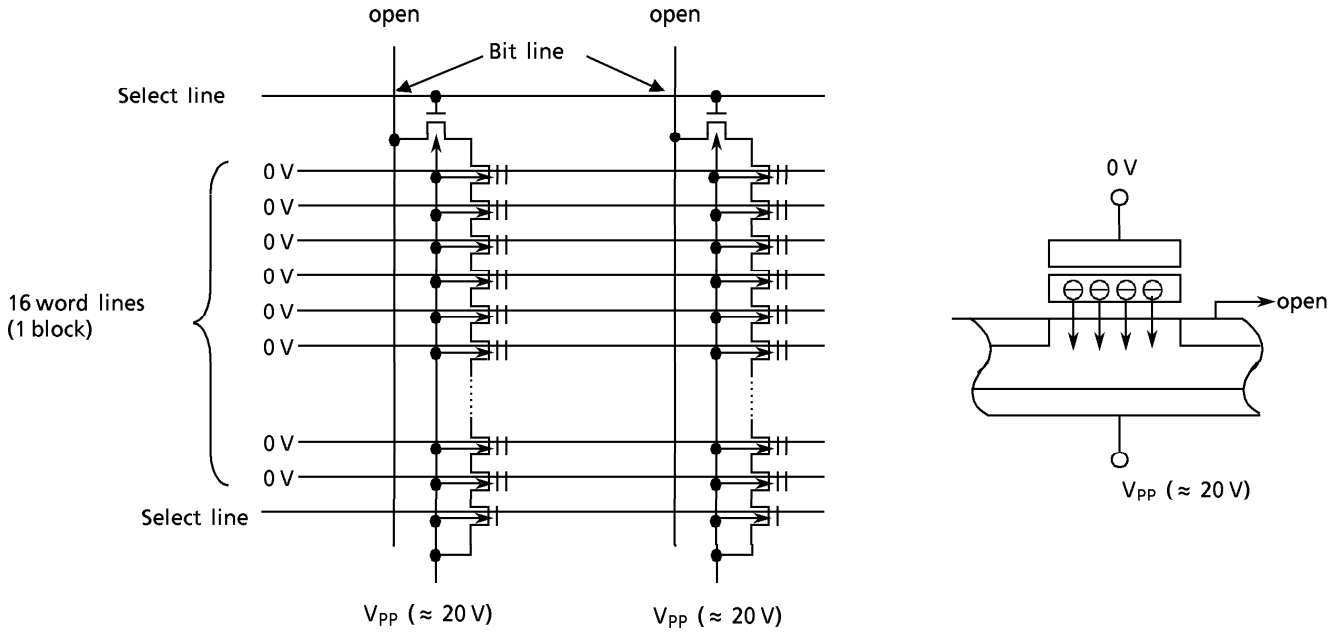

Figure 18. TC5816 Erase Device Physics
- (1) A high level is applied to Select line 1 and a low level is applied to Select line 2 so that the device is connected to the Bit line and disconnected from the ground line.
- (2)  $V_{pp}$  ( $\approx 20$  V) is applied to the selected word line and an inhibit voltage of  $V_{PI}$  ( $\approx 10$  V) is applied to the unselected word lines.
- (3) 0 volts is applied to the bit line tied to cell transistor TR1 and the inhibit voltage  $VDPI$  ( $\approx 10$  V) is applied to the bit line tied to TR2.
- (4)  $V_{pp}$  is applied between the control gate and the channel in TR1, as shown in Figure 18, which causes electrons to be injected from the channel to the floating gate by a tunneling mechanism.
- (5) The injected electrons are captured in the floating gate surrounded by an oxide layer and will remain, even after power is cut off, until they are removed by an Erase operation.
- (6) Although 20 volts is applied to the control gate of TR2, the voltage difference between the control gate and the channel is only 10 V because the voltage of the channel is 10 V. Therefore, tunneling does not take place (i.e. the electron is not injected into the floating gate.)
- (7) Tunneling does not take place in the unselected pages because of the 10 V ( $V_{PI}$ ) applied to the unselected word lines which makes the voltage difference between the control gate and channel only 10 volts.
Figure 18 shows the NAND memory cell level details of the Erase mechanism. The Erase operation is used to turn the “0” (programmed) cells back to “1” in a block. The captured electrons are pulled out from the floating gate to the substrate by a tunneling mechanism. 0 volts is applied to the control gate and  $V_{pp}$  ( $\approx 20\text{ V}$ ) is applied to the substrate so that a 20-volt potential is created and the electrons in the floating gate are pulled out by the tunneling mechanism.